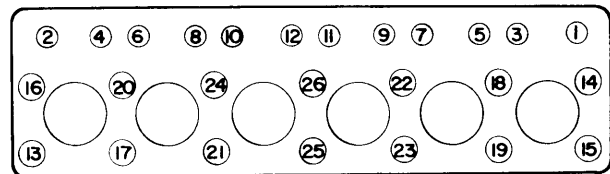

Fig. 1 Cylinder Head Bolt Loosening Sequence
2) Remove rocker arm cover. Remove rocker arm shaft bolts and lift rocker arm shaft assembly off of head. Remove push rods and fuel return spill tube. Remove fuel injectors from cylinder head. Remove head bolts as shown in Fig. 1. Lift cylinder head from block with a hoist. **NOTE** – Care should be taken to keep the pre-combustion chambers from falling out at this time. If they do fall out, replace them in their original positions. Remove head gasket and "O" rings from water and oil passages.